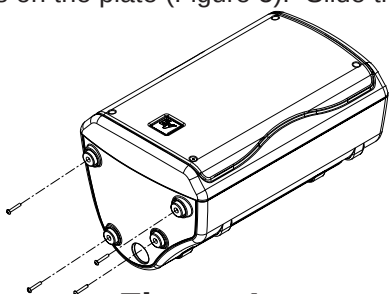

Figure 1:
1. Turn the ZX1-90 enclosure upside down, and remove the four #8 screws that attach the rubber feet to the bottom of the ZX1-90 enclosure with a Phillips screwdriver (Figure 1). The screws will not be needed for the kit, but they will be needed if you ever want to return the ZX1-90 to its original condition.